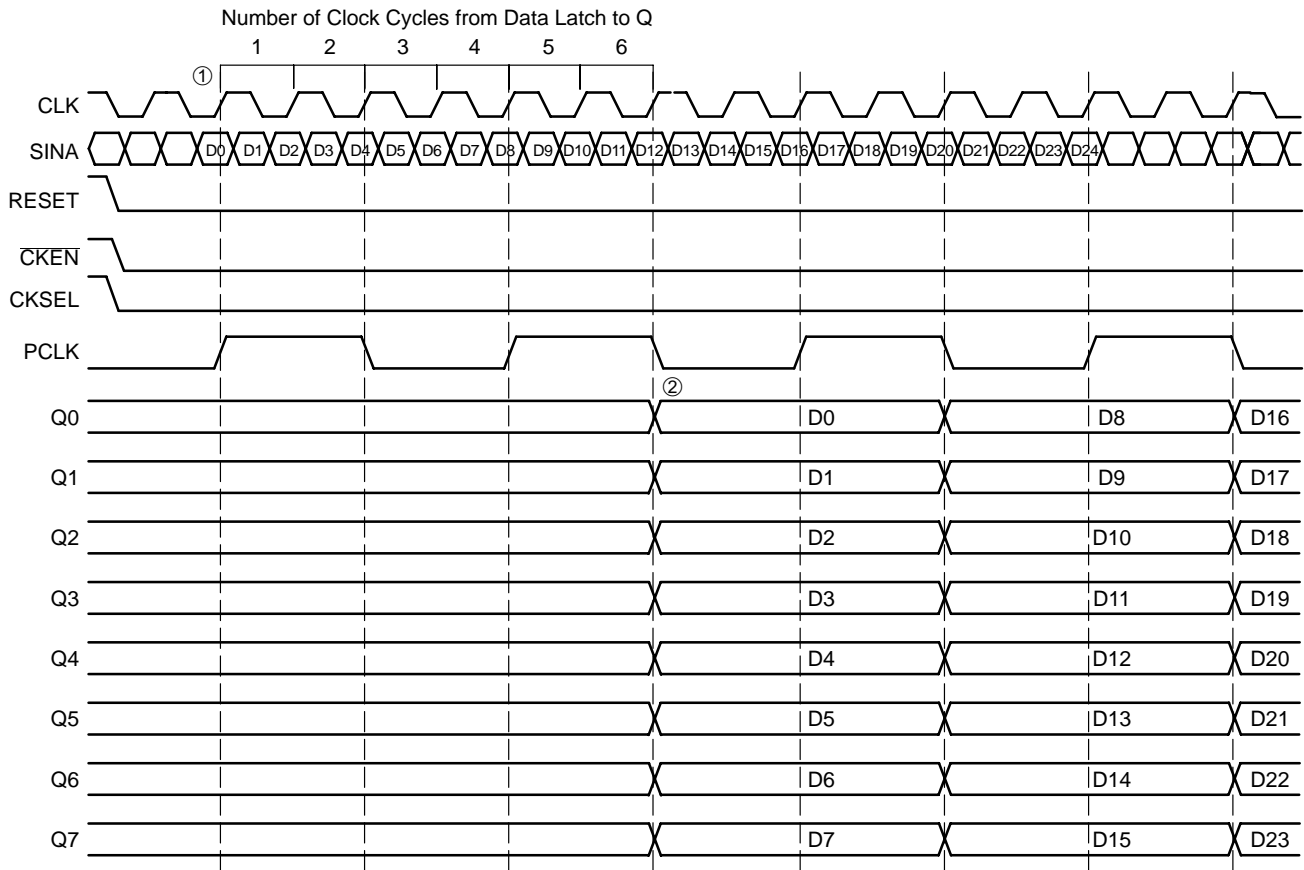

Figure 7. Timing Diagram A. 1:8 Serial to Parallel Conversion with CKSEL LOW
For CKSEL LOW operation, the data is latched on both the rising edge and the falling edge of the clock and the time from when the serial data is latched^① to when the data is seen on the parallel output^② is 6 clock cycles (see Figure 7).